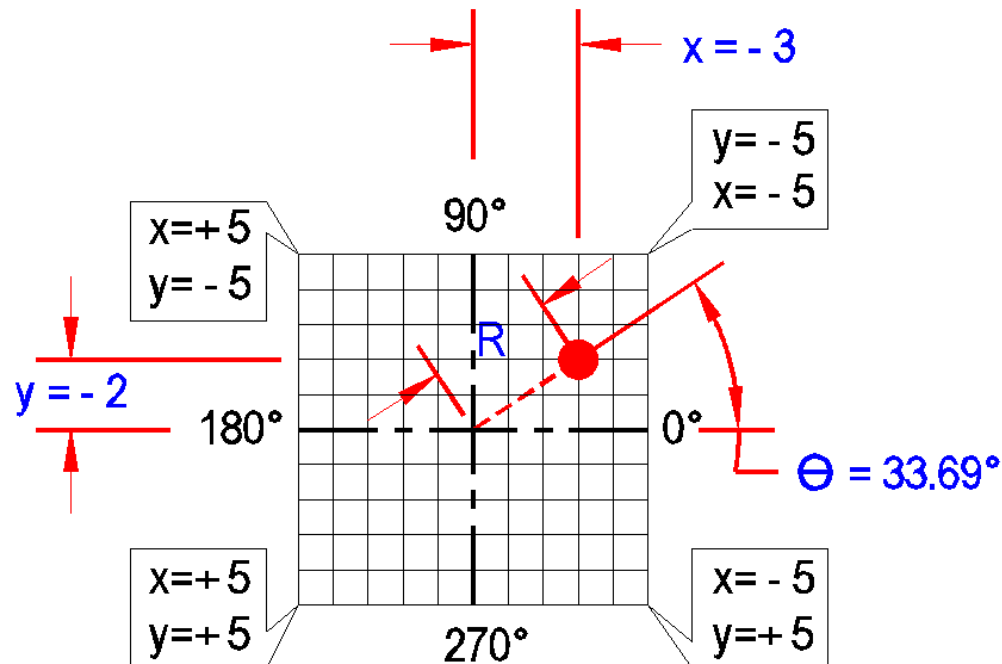
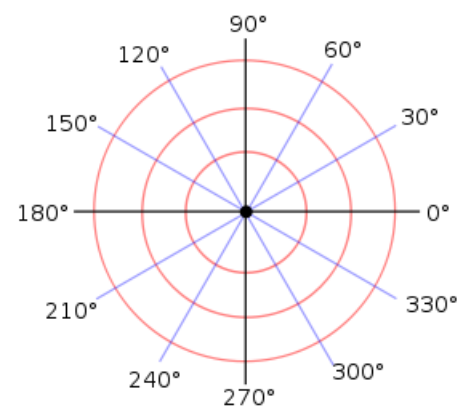

Figure 31 – Corner position coordinates
Figure 32 – Normal Polar Chart Orientation
**Figure 31** illustrates the corner position coordinates, as if the laser beam was located at the four respective corners. Also shown is an example of a laser beam located in the upper right quadrant of the PSD. The beam rotation angle is displayed in standard polar coordinates, as shown in **Figure 32** (zero degrees at three o'clock and counter-clockwise rotation).